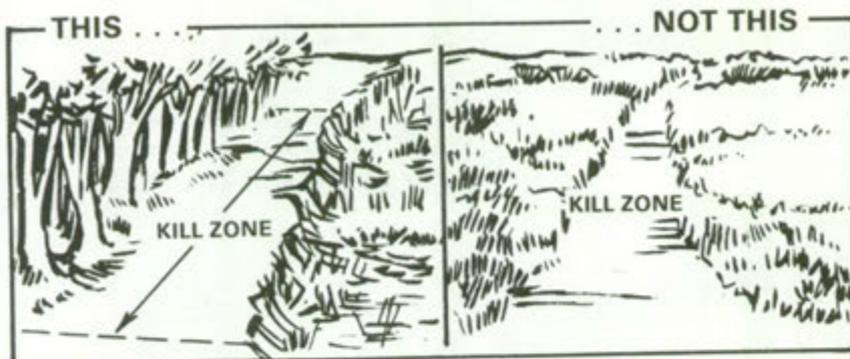

Figure 1.
- b. Make it difficult for enemy vehicles to bypass the ambush site (figure 1).